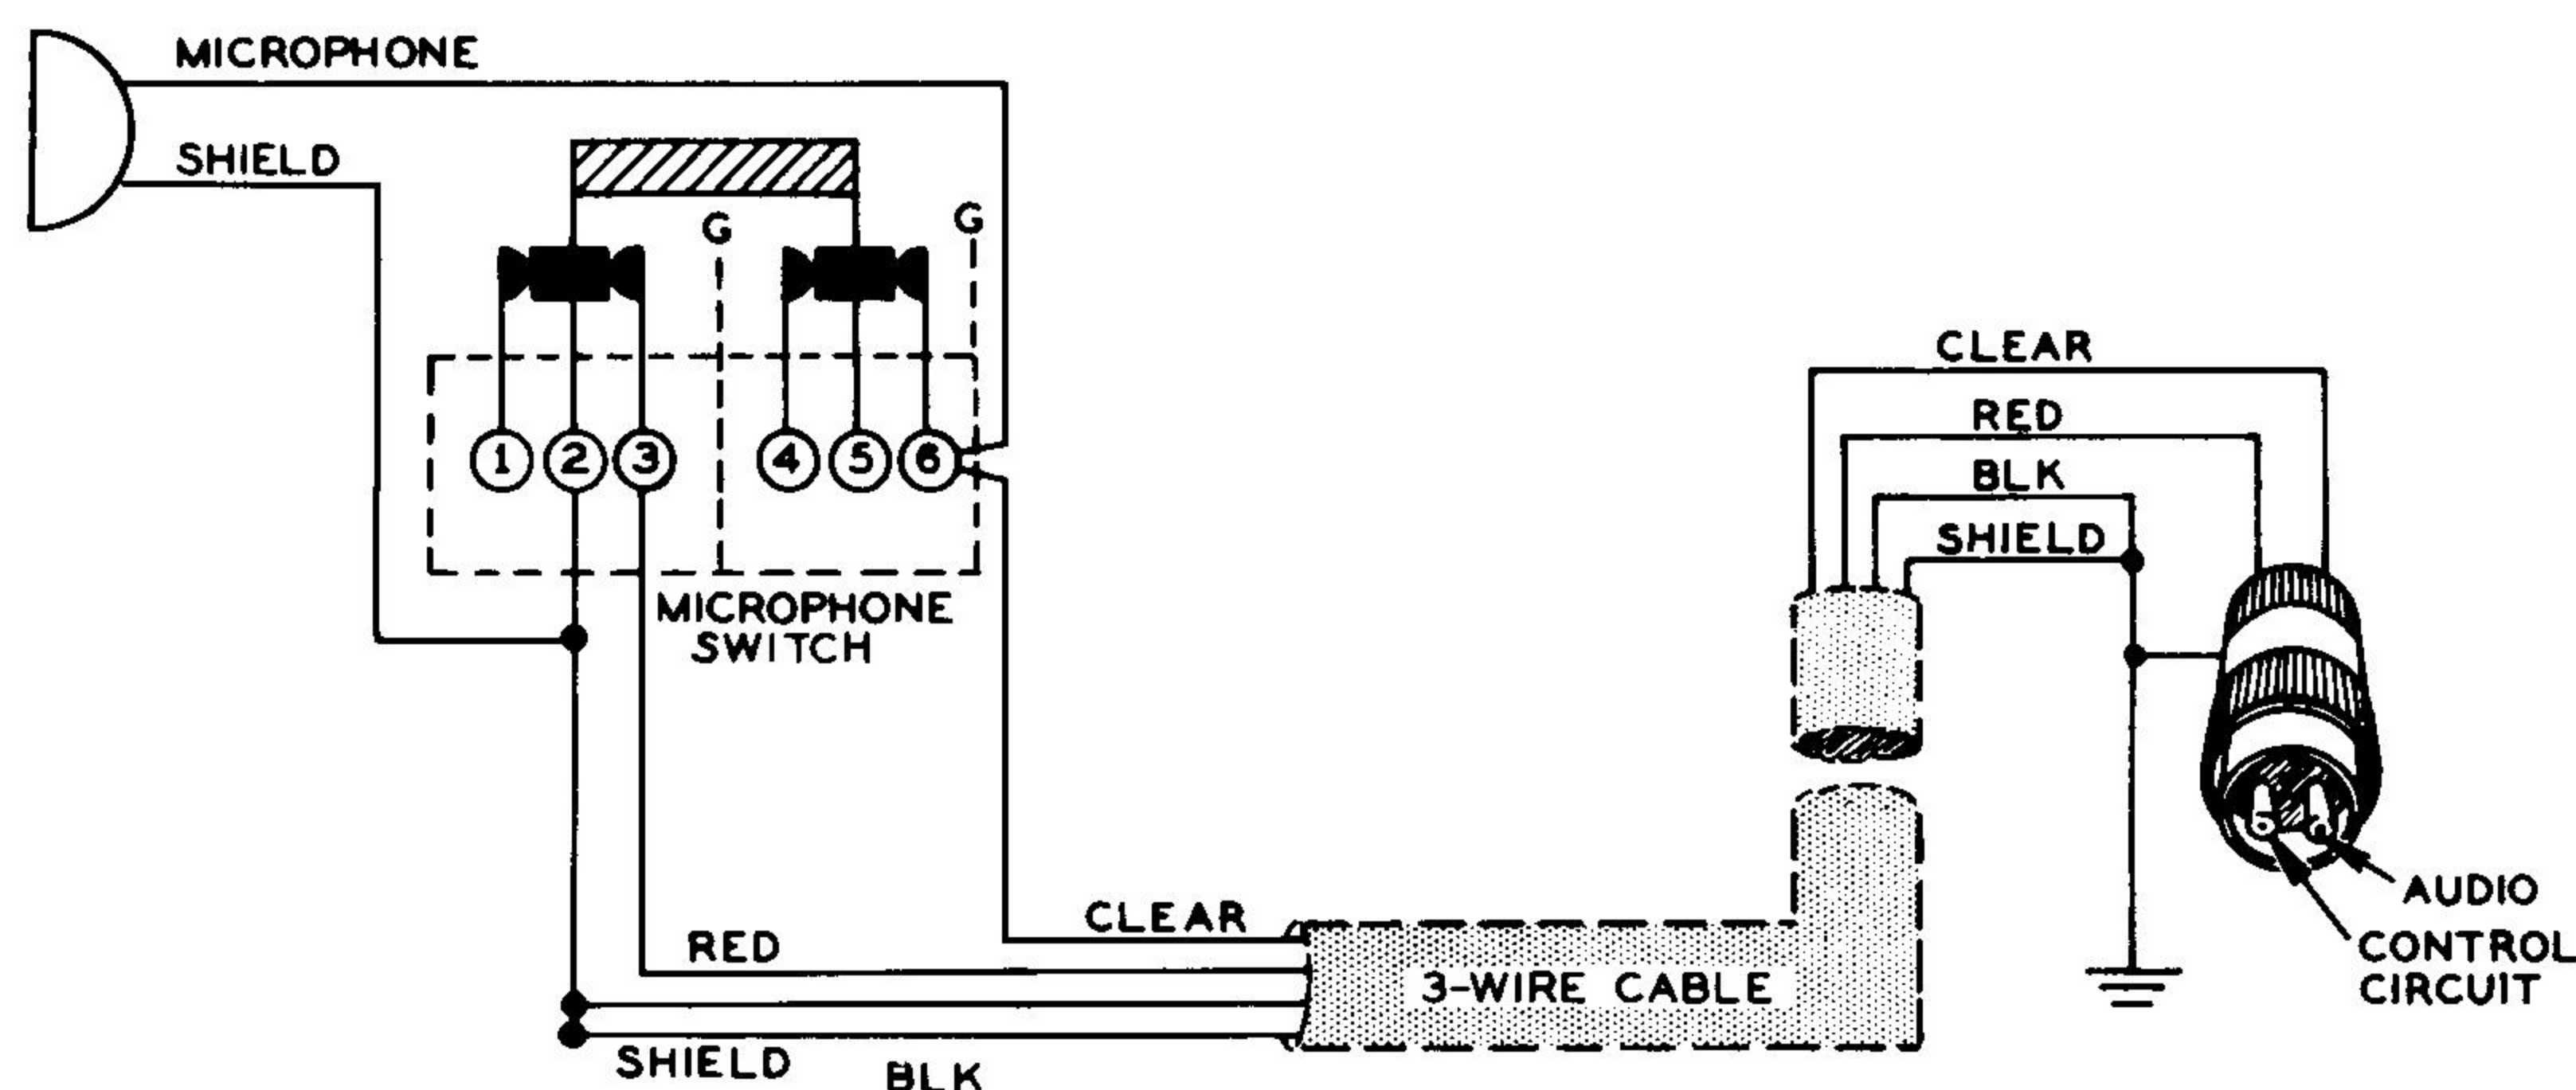

Figure 5
- ( ) Connect the red wire to the control circuit pin of the cable connector as shown in Figure 5. Solder.
- ( ) Connect the clear wire to the audio pin of the cable connector as shown in Figure 5. Solder.